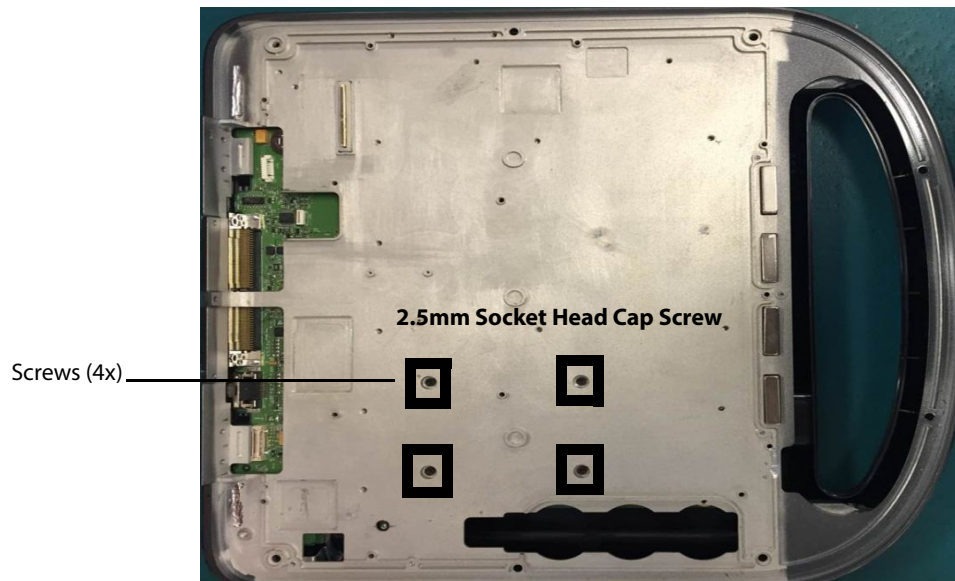

Figure 6.15 Nest Frame Top Screws
- 6 Remove the 4 Socket Head Cap Screws as shown in Figure 6.15. This releases the Nest Frame and will allow the Main PCBA to be removed.